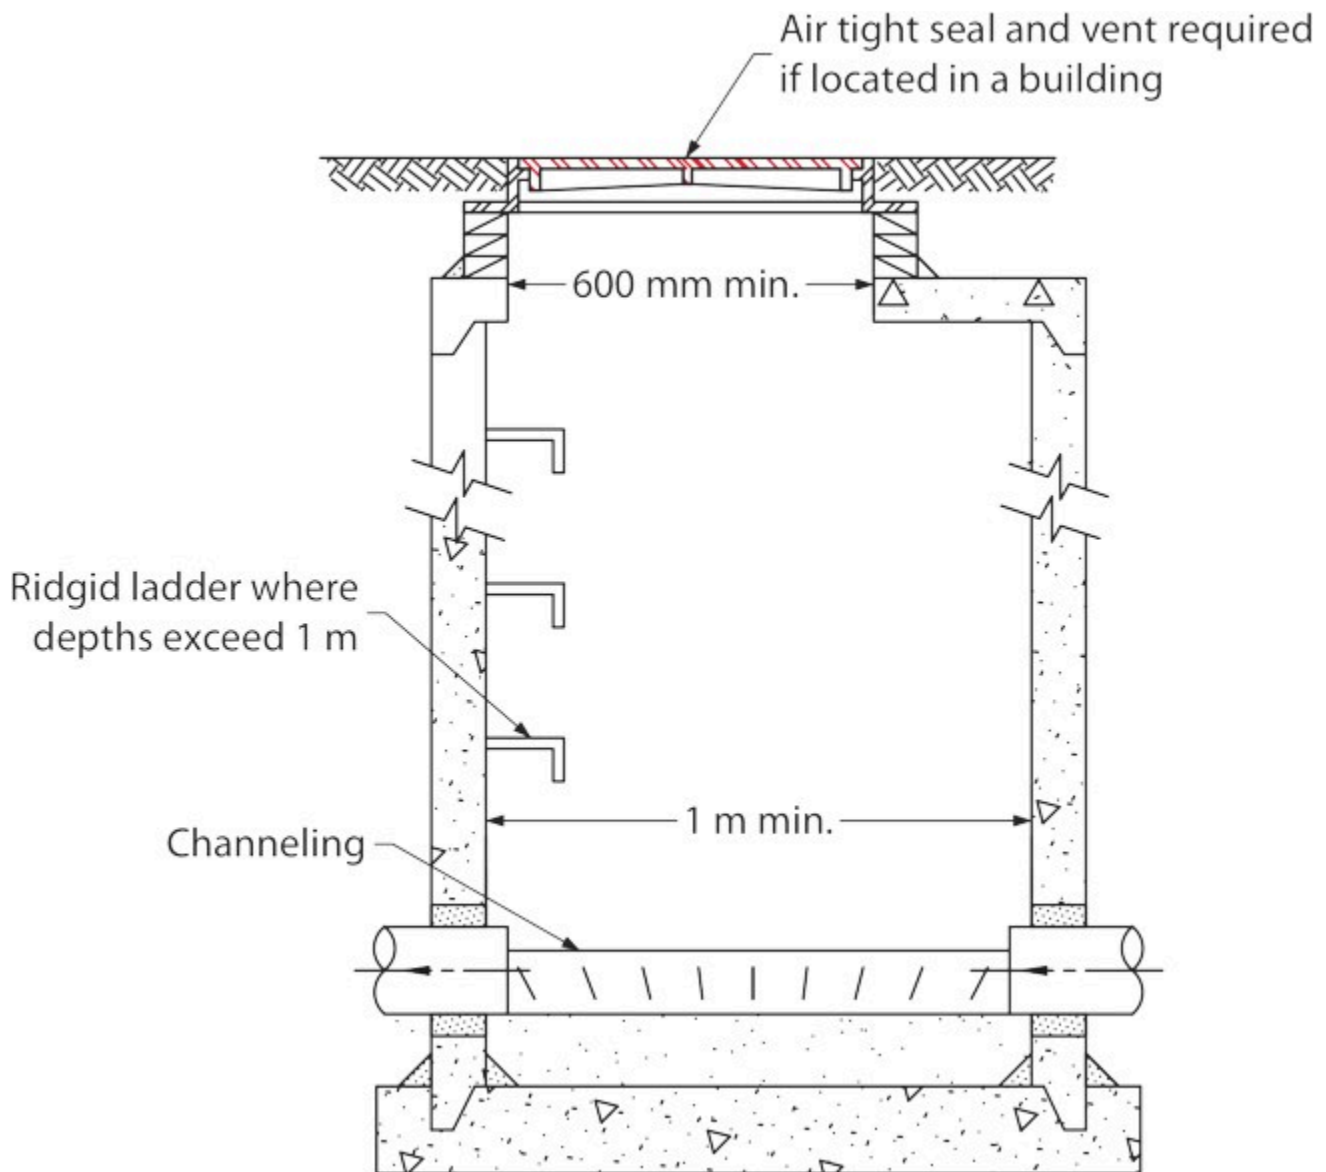

Figure 6 Sanitary manhole
- Figure 6 Sanitary manhole by ITA is licensed under a CC BY-NC-SA licence.